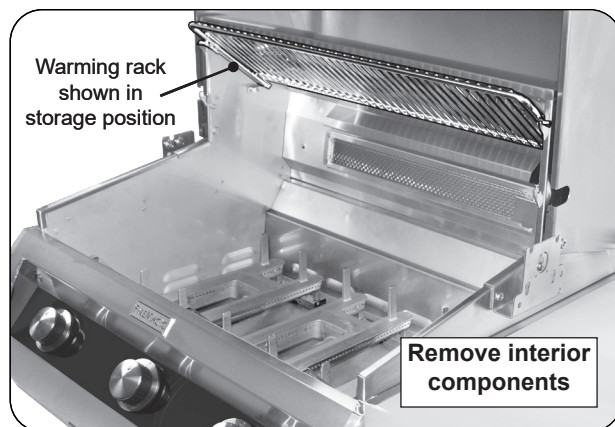

Fig. 38-1 Prepare grill for rotissing
1. Set the warming rack to storage position, remove the backburner cover and cooking grids (see Fig. 38-1).